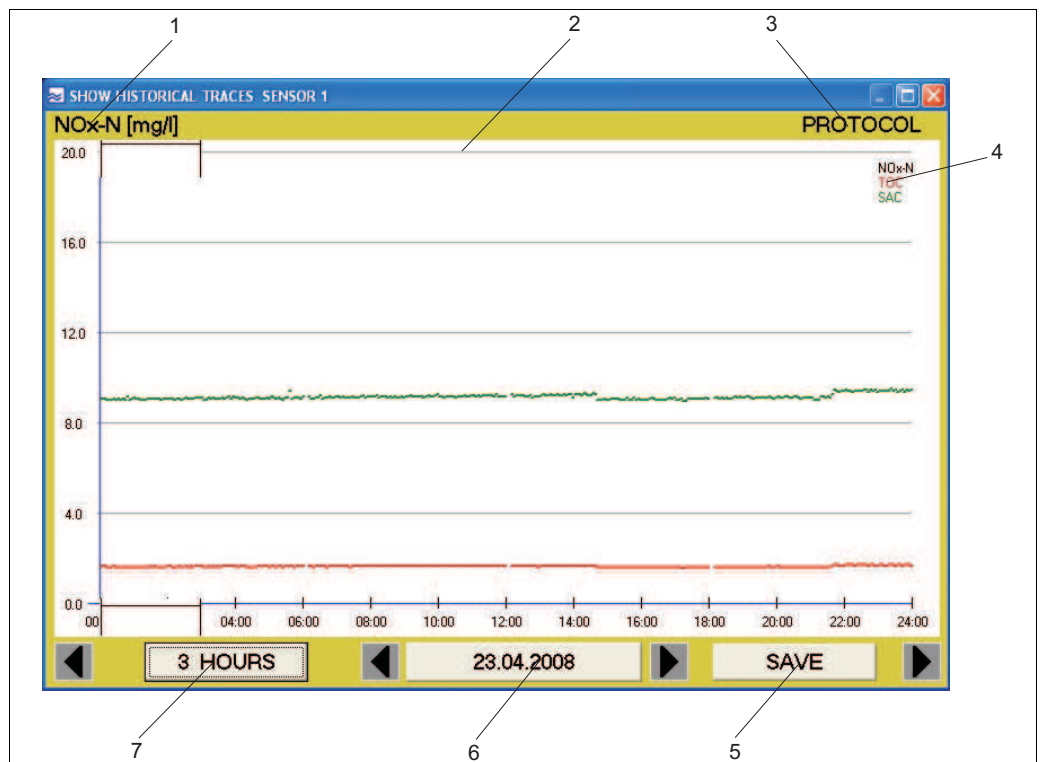

Fig. 33: Show historical traces
Move the time window (pos. 2, Fig. 33) to where you want to look at the trace in greater detail. Then click on the 3 HOURS button. The trace is displayed for the selected time period. One click on the 24 HOURS button brings you back.
Click on PROTOCOL (pos. 3, Fig. 33) to view the daily log.
Scaling of the Y axis is determined by a parameter (pos. 1, Fig. 33). In this screenshot it is NOx-N. To change the scaling, click on the parameter displayed. The following window appears:
The parameters selected for measurement are displayed here (pos. 4, Fig. 33). Each parameter is assigned its own color for trace identification.
Click on the SAVE button (pos. 5, Fig. 33) to save the measured values for a selected day in a csv file.
The date display (pos. 6, Fig. 33) shows you when the trace was created. You can use the relevant arrow keys to page back and forth.
You can use this button (pos. 7, Fig. 33) to choose between the 24-hour display and the 3-hour display.